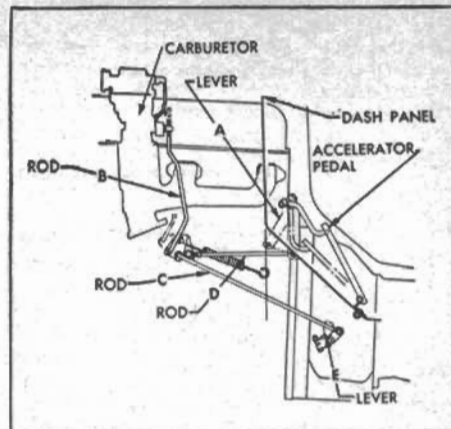

Fig. 19 Adjusting 6-cylinder throttle linkage. 1955 Powerglide
3. Disconnect rod "C", Fig. 19, from throttle lever "E".